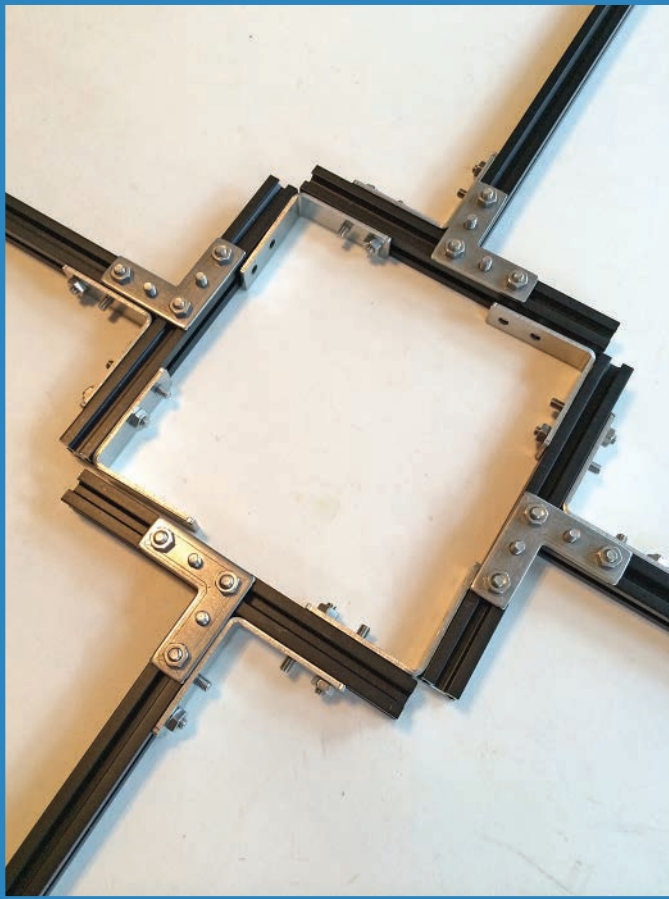

FIGURE 4.13 Add the four segments together, and you start seeing your airframe take shape.
2. Once you have all four built, connect them together using the usual hardware. It should look just like Figure 4.13.